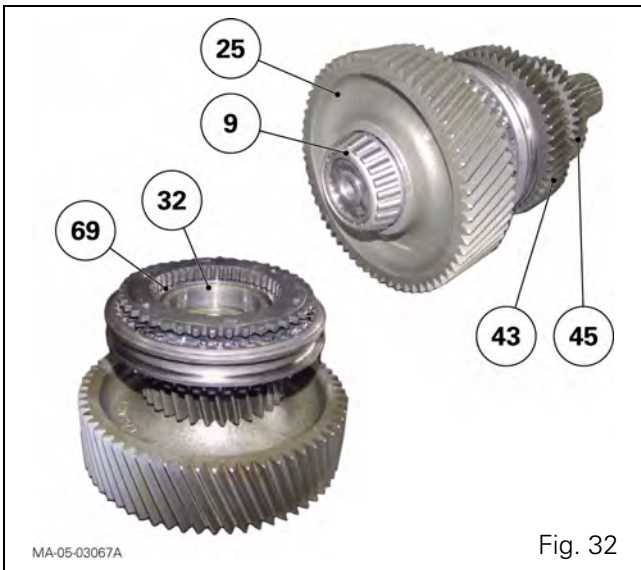

Fig. 32
87. Remove the bearing cone (9) and the spacer (14) (Fig. 32).
88. Fit the shaft vertically on the pinion (25). Pull the shaft (13) upwards with the pinions (43) and (45), taking care not to disassemble the synchroniser (69) (Fig. 32).
89. Recover the needle bearing (32) (Fig. 32).